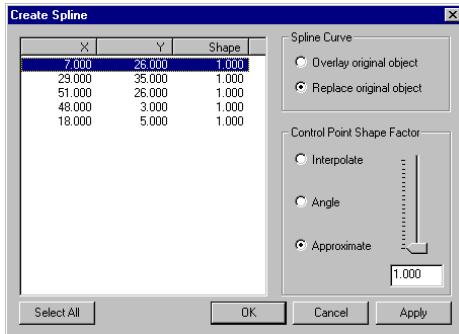

Figure 59: Modifying the vertex shape factors
- Modify the shape factors of all the vertices so that the curve approximates each vertex (Figure 59).